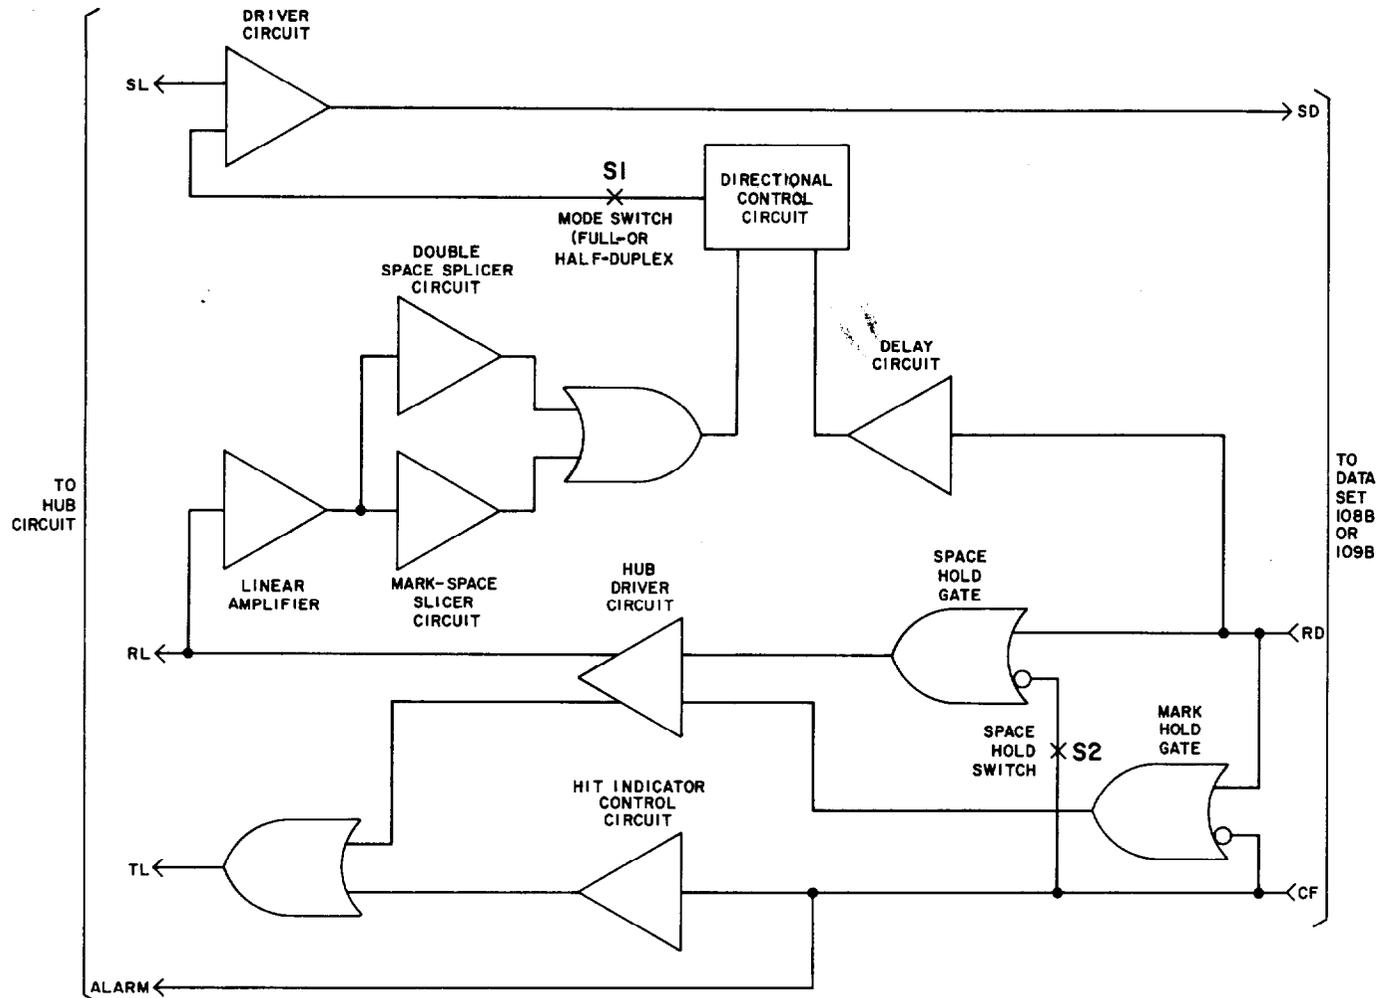

Fig. 4—Data Auxiliary Set 811C, Functional Block Diagram
3.01 The Data Auxiliary Set 811C is essentially a two-channel unit which transmits both to and from the hub and the data set. A functional block diagram of the 811C is given by Fig. 4.